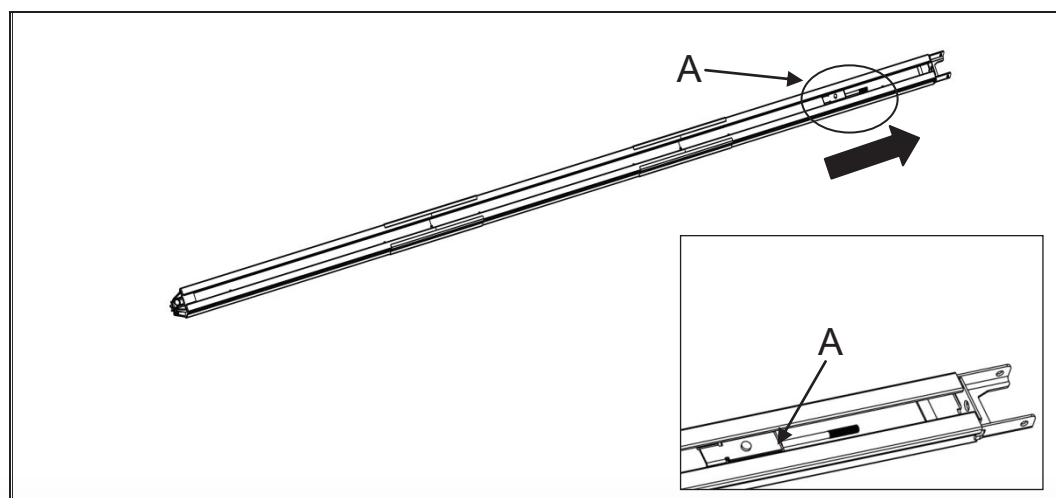

Fig. 12
4. As Fig.12, pull the screw rod "A" along with inner chain to the end of top rail ;